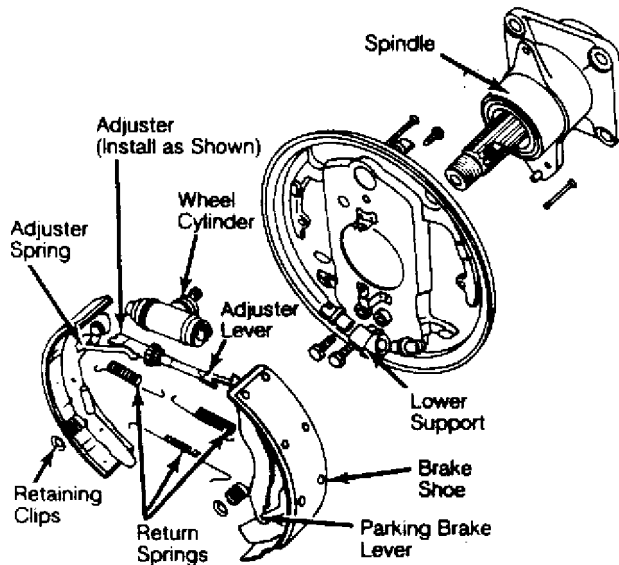

Fig. 5: Exploded View of Rear Brake Assembly (Vanagon & Vanagon Syncro)
1) After removing drum, remove retainer clips, hold-down springs and anchor pins. Disconnect parking brake cable from lever on brake shoe. Disconnect lower return and adjuster springs. Pull brake shoes out of lower support. See Fig. 5.